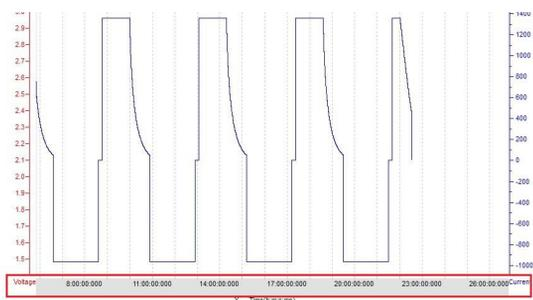

Figure 6-15 Y-axis up/down movement zone
② Curvilinear translation
- In Figure 6-15, the light red and mauve areas on both sides of the Y axis are the up and down control areas of the Y axis. When you move the mouse over this area, it changes to the "hand shape + up and down arrow" shape. Hold down the left mouse button to drag the Y axis up and down.